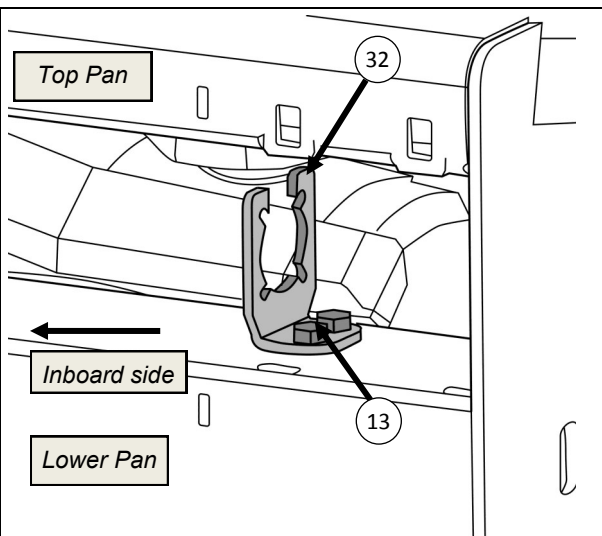

Figure 57: Install Remote Socket Bracket
- Face Remote Socket Bracket towards inboard of vehicle and install (Item 32) onto Bull Bar using 2X Screw M6 x 1.0P x 20 (Item 13), 2X Washer Flat M6 (Item 17) and 2X Nut Nyloc Hex M6 x 1.0P (Item 15) as shown in Figure 57.